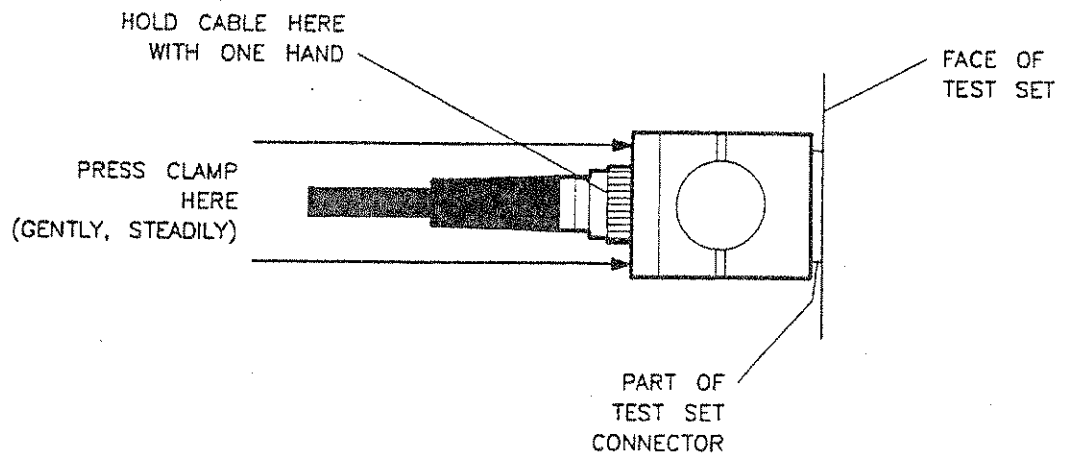

Figure 3-6. Mating the Clamp and Nut Flats
4. See Figure 3-6. Hold the cable with one hand and gently press the clamp onto the connector nut. The internal flats in the clamp must fit over the flats on the connector nut. Do not rotate the clamp as you do this or the RF connection will be affected.